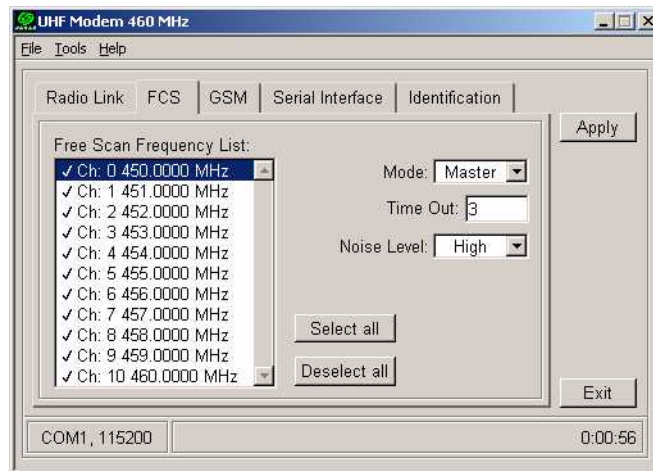

Figure 2-25. FCS Tab
- Click on the **FCS** tab (Figure 2-25).